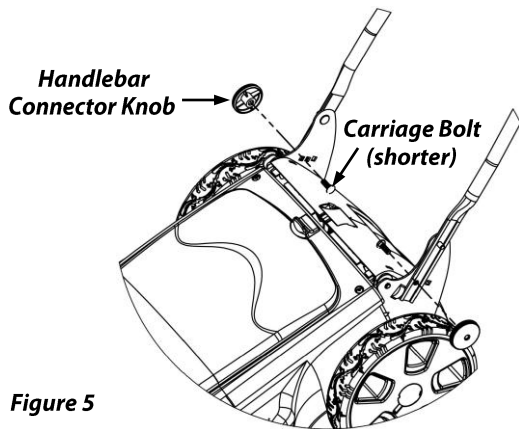
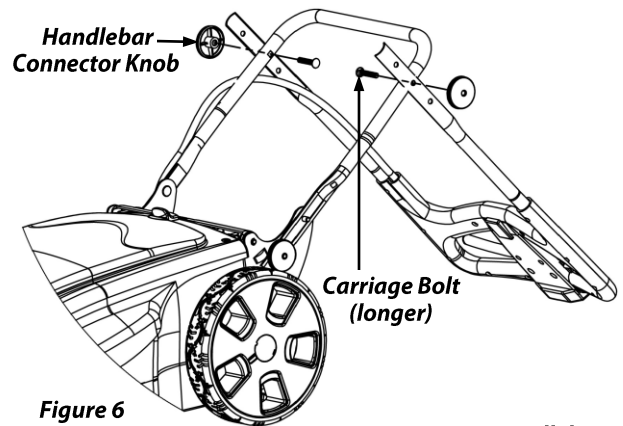

Figure 5
Figure 6
3. Rotate the Handlebar into the upright position (**Figure 5**) and insert the two (2) 8mm x 25mm Carriage Bolts (the smaller of the four (4) Bolts included with your Neuton Product Pack) from the inside through one of the three (3) holes and screw on the Black Handlebar Connector Knobs also included in the Neuton Product Pack. Tighten the Connector Knobs by hand.
**NOTE:** The three (3) holes in the Handlebar Brackets through which you can pass the 8mm x 25mm Bolts are Height Adjustment Holes. The lowest hole will produce the highest Handlebar position and the highest hole will produce the lowest position for operation.
4. Let the plastic portion of the Upper Handlebar Assembly lean on the ground (**Figure 6**) and align one of the three (3) holes in the Upper Handlebar Assembly with the hole on the Lower Handlebar. Insert the larger, 8mm x 45mm Carriage Bolt from the inside through the aligned holes and lightly screw on the remaining Black Connector Knobs, just enough to hold the Upper and Lower Handlebar Sections together.